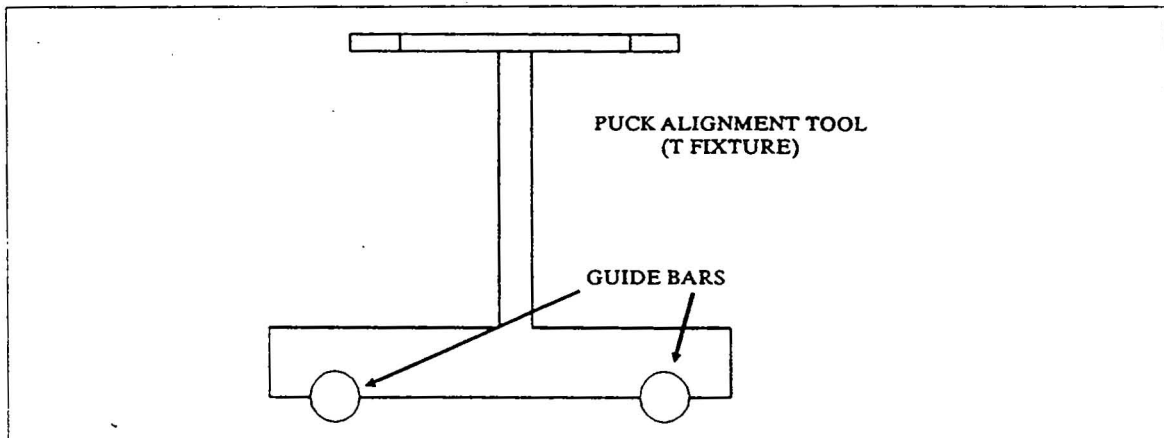

Fig. 5-12 Puck Alignment Tool Positioning
1. Place the specially designed puck alignment tool fixture between the Puck and the two guide bars (See Fig. 5-12).